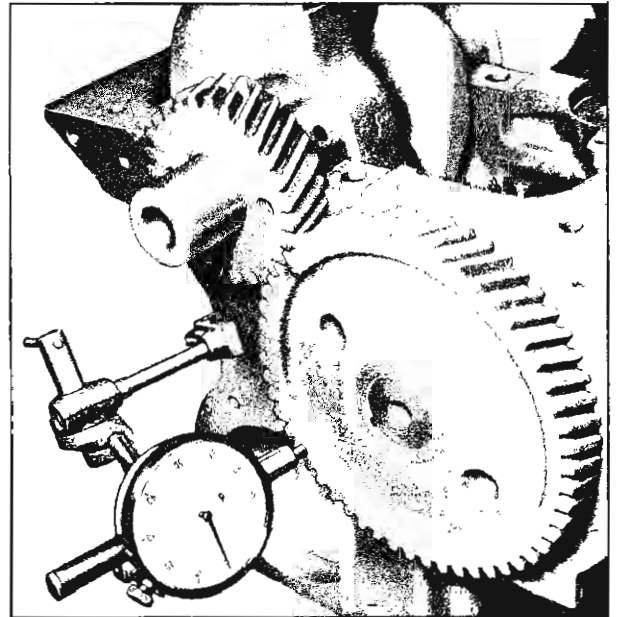

Fig. 39—Checking Camshaft Gear Runout
3. Check camshaft and crankshaft gear runout with a dial indicator (fig. 39). The camshaft gear runout should not exceed .004" and the crankshaft gear runout should not exceed .003".